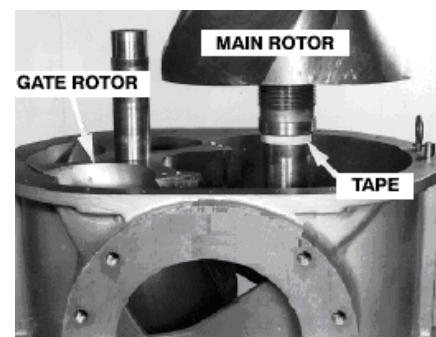
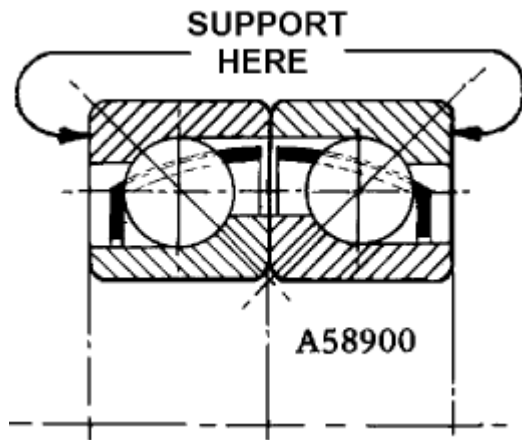

FIGURE 7-4 – ROTORS
FIGURE 7- 5 – ANGULAR CONTACT BEARING ASSEMBLY
Never push the grooved end of the spacer through the bearing oil seal as the lip of the seal may be damaged. Apply Loctite 620 to the ID of the bearing spacer. When the spacers are fitted, slide them on the gear end shaft extension of the rotors with the grooved end toward the rotor. Make sure there are no burrs on either end of the spacer or end of the rotor. Place tape around the shaft to prevent the spacer from sliding off as shown in (Figure 7-4, page 41).
4. Be sure the ends of the rotors (2, 3) and machined face of the carrier are free of burrs and dirt. Lower the gate rotor (3) into the housing (1) first (Figure 7-4). The gear end shaft extension, with the bearing must be suspended plum when lowering so the shaft extension and bearing spacer can be carefully guided through the close fit of the shaft seal without damage to the babbitt of the air seal. On older models, match timing marks on the end of the rotor lobes as shown in (FIGURE 7- 9, page 43). Rotors must be used in matched pairs. Identifying marks are stamped on the O.D. of the rotors on the same lobe as the timing marks.
5. The angular contact bearings (34, 35) must be assembled as shown in (FIGURE 7- 5) to assure a “fixed” bearing. The marked face of the inner bearing is placed down in the bearing bore; the marked face of the outer bearing is placed up.